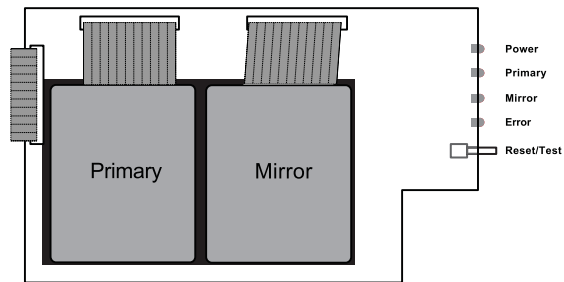

Fig. M3-3: Hard-disk drive positions on M3
Important: If the M3 is being installed on a system that already has an existing Memory Module (hard disk drive), the existing Memory Module **must be installed** in the M3 as the **primary HDD** (see **Fig. M3-3**). If it is not, then the drive synchronization will not operate correctly, and the system will have to be initialized and reprogrammed.
1. Align the threaded holes at the end of the standoffs of the hard drive subassembly to the six holes on the M3 board. The connectors on the hard drives should be facing towards the connectors on the M3 board (see **Fig. M3-3**, page F.9).